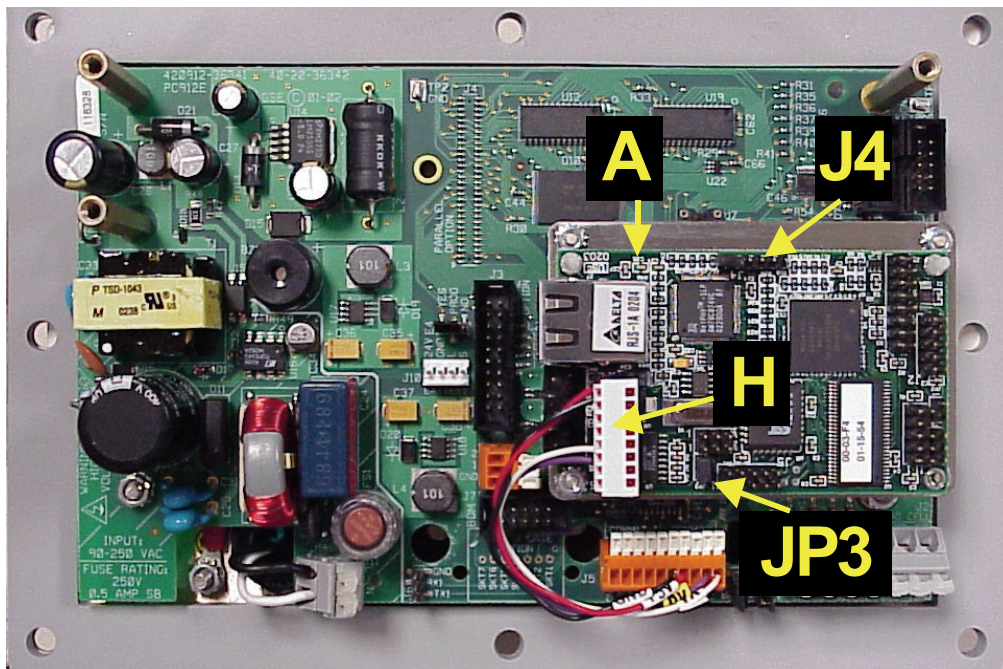
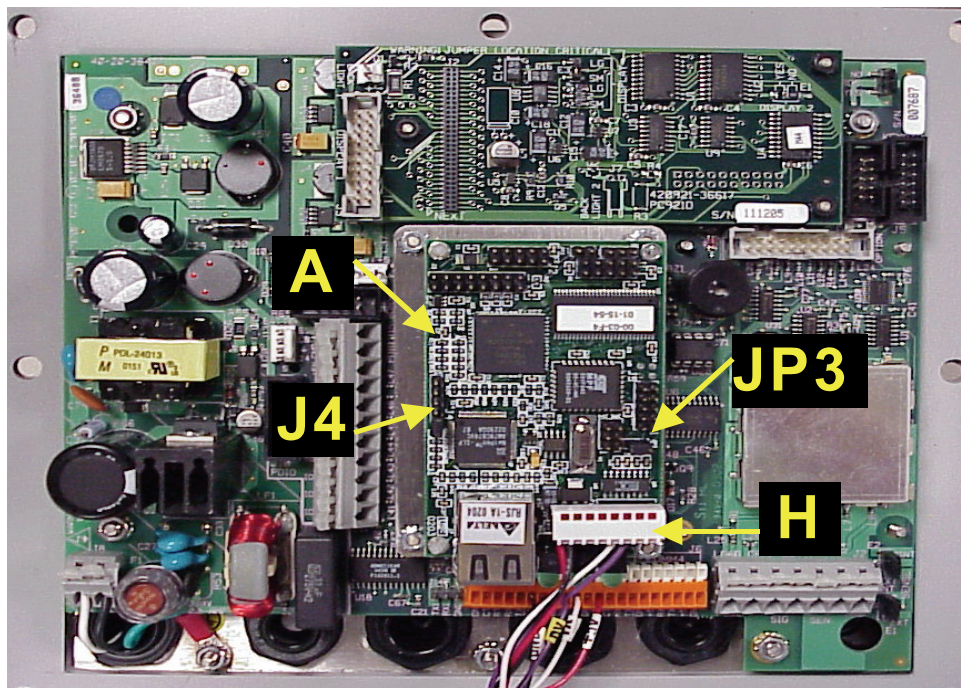

Figure 7: Installing Ethernet Module (A), Model 460/465
Figure 8: Installing Ethernet Module (A), 560 and 660 Series
8. Snap the Ethernet Module (A) onto the plastic spacers (F) and place a 5.5mm nut (E) on the 5/16" metal spacer (D) to secure the Ethernet module.
9. Make sure there is a shorting jumper on JP3 on the Ethernet module. Also there should be a shorting jumper on J4 as shown in *Figure 7* and *Figure 8*. The J4 jumper in conjunction with Lockout Settings as part of the product setup .
10. Install the power/RS232 cable (H) across the J8 (power) and J6 (RS232) of the Ethernet module. This cable will only fit on the J8 and J6 connectors one way. Refer to *Figure 7* and *Figure 8*.